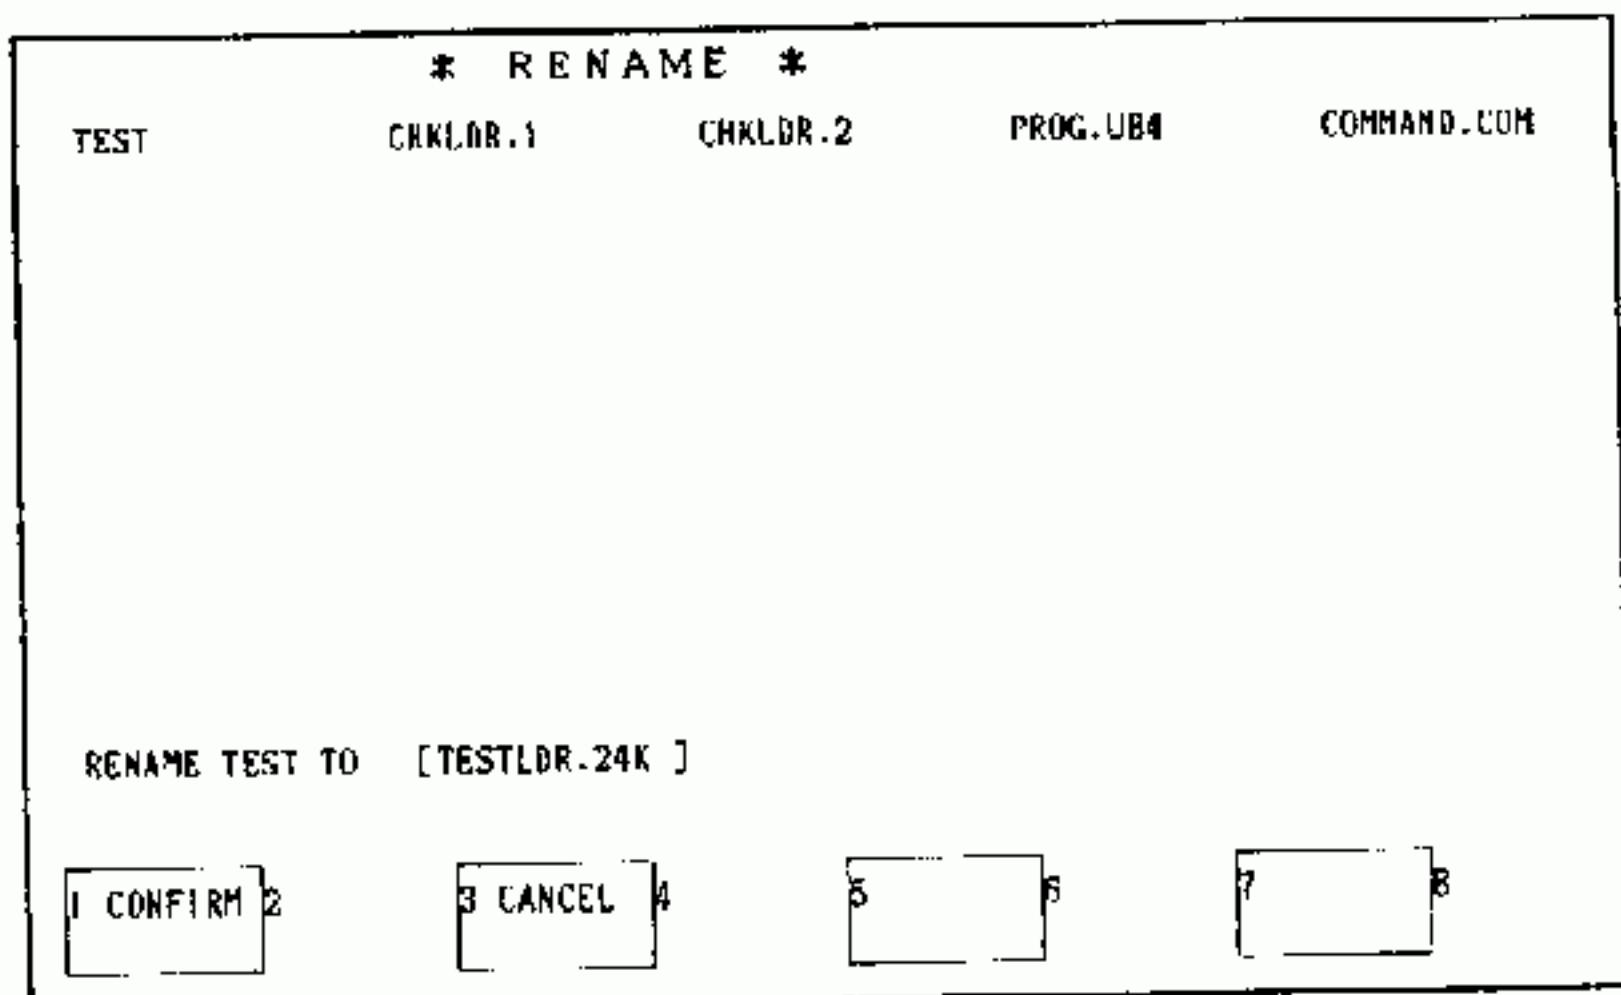

Fig. 5.2.154
1. Depressing "CANCEL" key in the display of Fig. 5.2.154 returns to the display shown in Fig. 5.2.152.
(6) File Copying